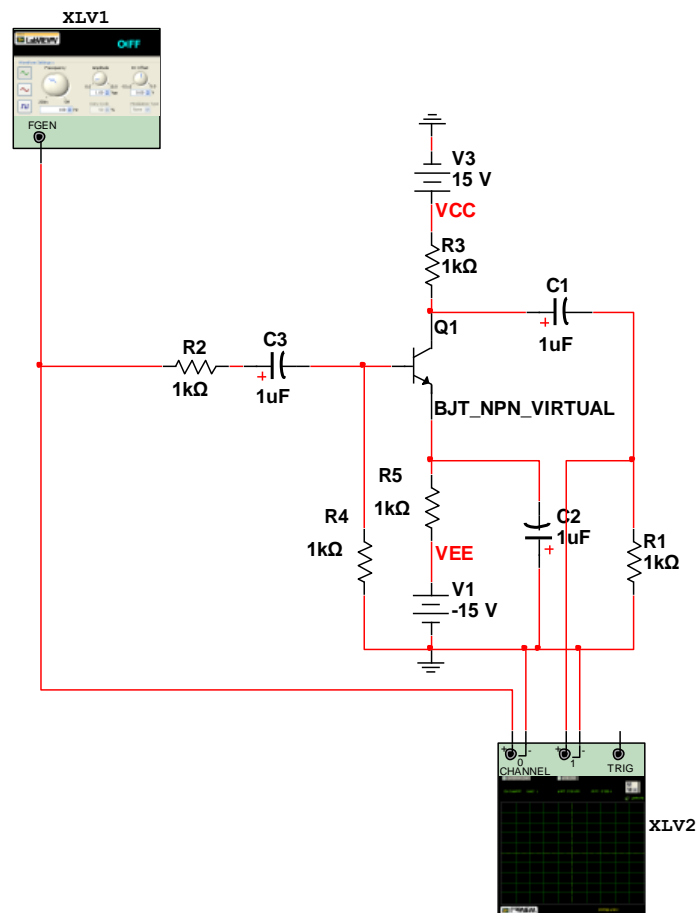

Figure A1: MultiSim Common Emitter Amplifier Circuit
4. Connect the NI ELVISmx Function Generator to the input of the circuit. Connect Channel 0 of the NI ELVISmx Oscilloscope to the input to the circuit. Connect Channel 1 of the NI ELVISmx Oscilloscope to the output of the circuit. Set the function generator to a 3 Vpp 100 Hz sine wave. Your result should look similar to Figure A1 when you are finished.